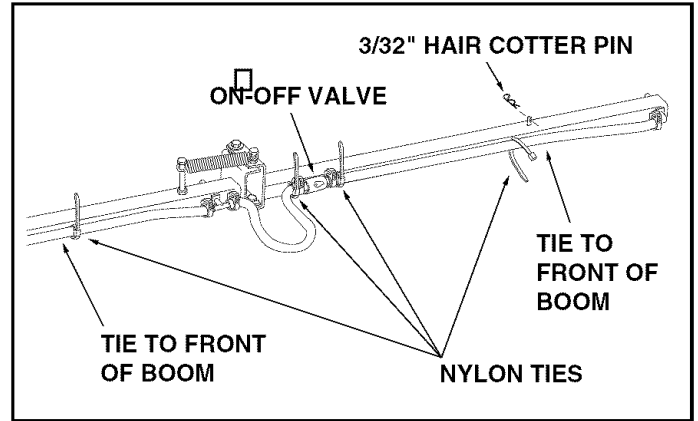

FIGURE 13 VIEWED FROM FRONT
24. Tie the hoses to the **front** of the boom using four nylon ties per side as shown in the **front view** in figure 13. After tightening, cut excess length off ends of ties .
25. Insert a 3/32" hair cotter pin into the welded pin at each end of the boom. These pins will be used to lock the boom arm to the transport bracket when the arm is in the folded position. See figure 13.